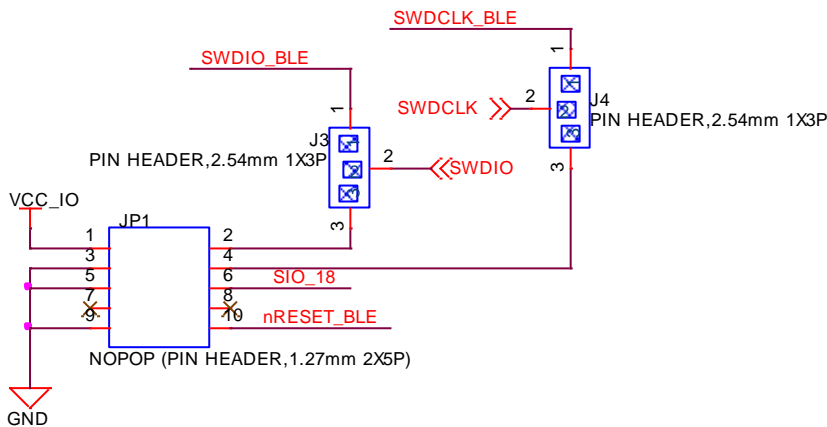

Figure 8: BL652 development board schematic
**Note:** Reference on the BL652 development board schematic (Figure 8) shows the DVK-BL652-xx development schematic wiring only for the JTAG connector and the BL652 module JTAG pins.
Laird recommends you use JTAG (2-wire interface) to handle future BL652 module firmware upgrades. You MUST wire out the JTAG (2-wire interface) on your host design (see Figure 8, where four lines should be wired out, namely SWDIO, SWDCLK, GND and VCC). Firmware upgrades can still be performed over the BL652 UART interface, but this is slower (60 seconds using UART vs. 10 seconds when using JTAG) than using the BL652 JTAG (2-wire interface).
**This is REQUIRED as *smartBASIC* runtime engine firmware can be loaded using the JTAG (as well as the UART.) Laird recommends you use JTAG (2-wire interface) to handle future BL652 module firmware upgrades. You MUST wire out the JTAG (2-wire interface) on your host design (see Figure 8, where four lines should be wired out, namely SWDIO, SWDCLK, GND and VCC). Firmware upgrades can still be performed over the BL652 UART interface, but this is slower (60 seconds using UART vs. 10 seconds when using JTAG) than using the BL652 JTAG (2-wire interface).**